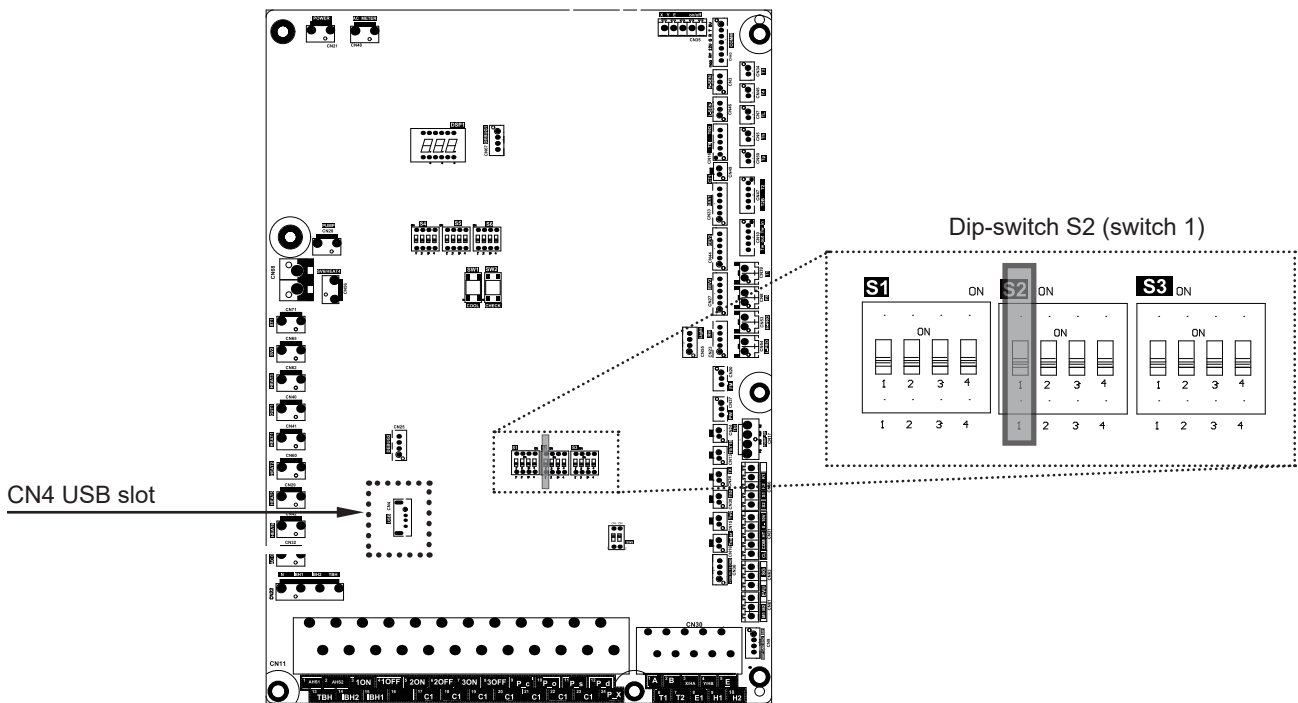

Figure 49. Outdoor PCB
3. **Make sure that DIP switch S2 (switch 1) is set to the ON position, see Figure 49.**
3. **Make sure that DIP switch S2 (switch 1) is set to the OFF position, see Figure 49.**
2. On the Outdoor PCB (Figure 49) insert the USB stick (provided) into the slot marked CN4 USB.